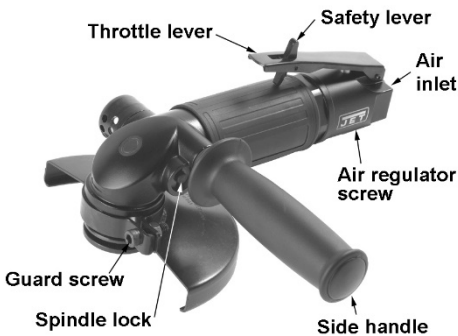

Figure 1
1. Install side handle (Figure 1) into threaded hole on grinder.
10. To reposition disc guard, loosen guard screw (Figure 1) and rotate guard to desired position, then retighten screw.